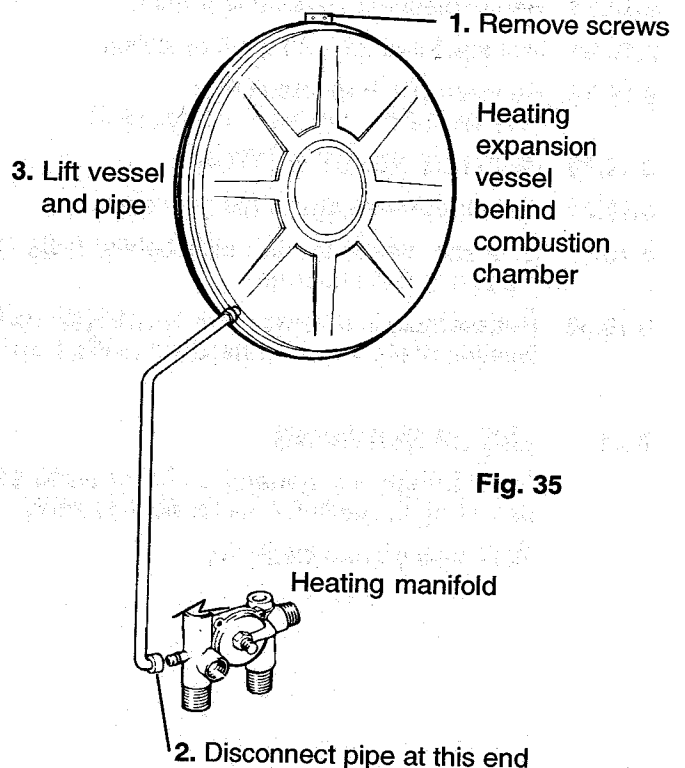

Fig. 35
- 8.16.9 Remove 2 screws securing vessel at top. Disconnect expansion pipe at heating manifold, lift vessel & pipe out of appliance. (fig. 35)